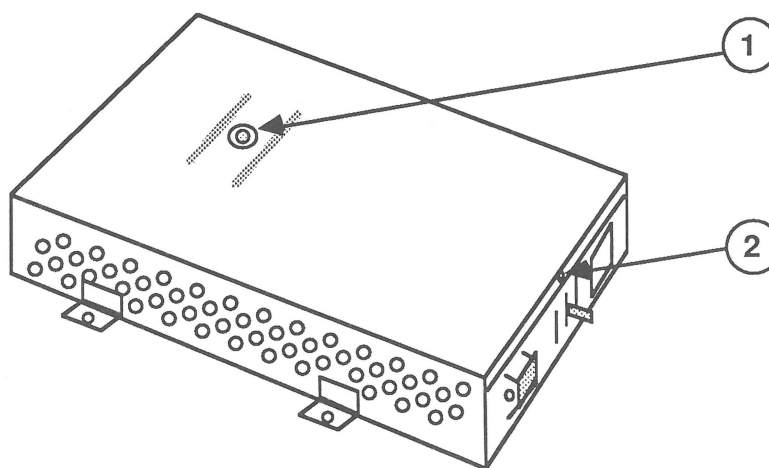

FIGURE 25
5. Remove the screw and washer (Figure 25, #1) and the screw (Figure 25, #2) that secure the metal cover to the power supply.
6. Replace the top screw and washer (Figure 25, #1) and the end screw (Figure 25, #2) that secure the metal cover to the power supply.